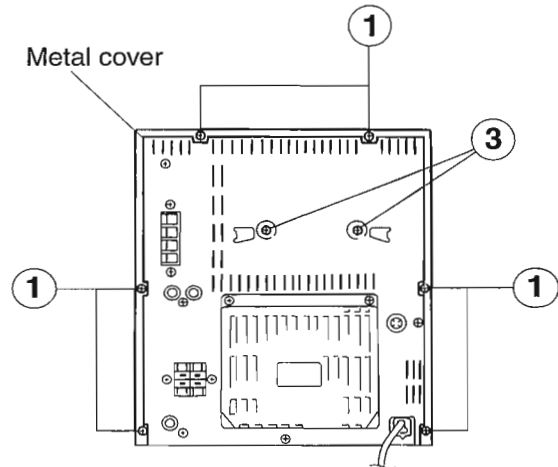

Fig. 3-1
■ Removal of the Metal Cover (See Fig. 3-1, 2)
1. Remove the six screws ① fastening the metal cover to the rear panel of the main unit. (See Fig. 3-1)
■ Removal of the CD Traverse Mechanism Assembly (See Fig. 3-1, 3, 4)
2. Remove the two screws ③ fastening the CD traverse mechanism assembly to the rear panel of the main unit. (See Fig. 3-1)